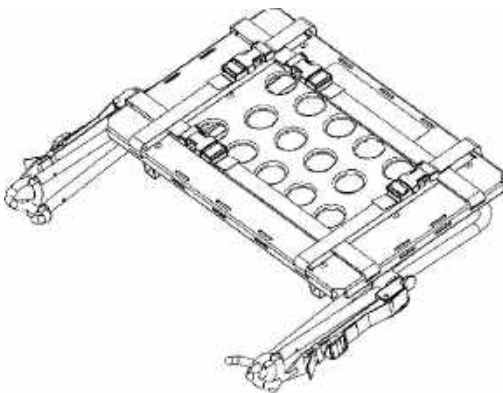

Figure 36 – Stored position
1. Place the defibrillator platform in the stored position (Figure 36).